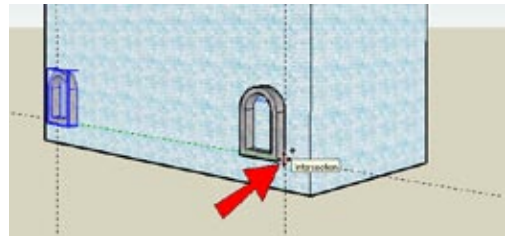

Figure 1-26
8. Press Ctrl/Option, and click the second move point at the intersection of the right and bottom construction lines (Figure 1-26).